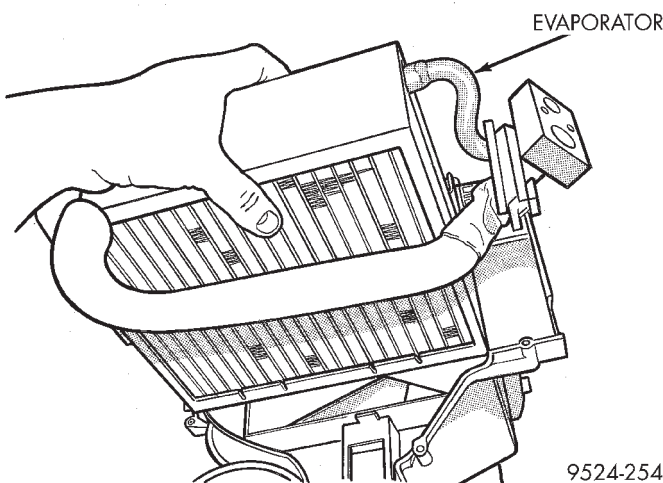

**Fig. 91 Remove Evaporator From Housing**
- (21) Lift evaporator out of lower housing (Fig. 91).